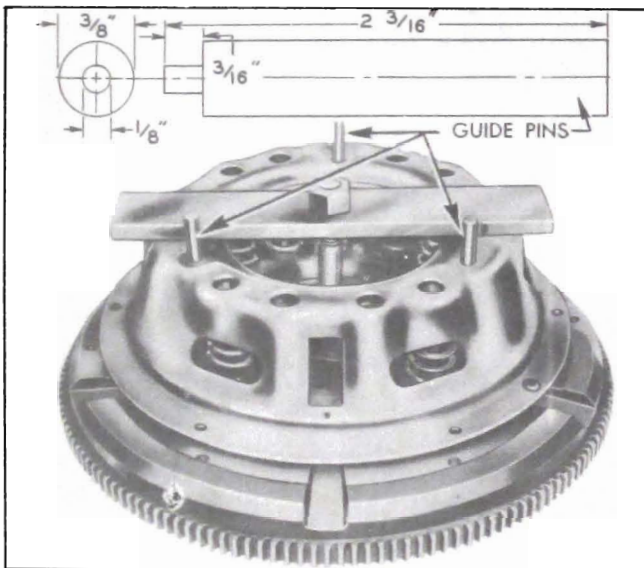

Figure 4-14—Assembling the Clutch—Series 50-60
each other in order to preserve engine balance. See figure 4-14.
2. Unhook spring retainers from ears on clutch cover, using Assister Hook J 1039-2 shown in figure 4-14, Tool J 1039-1 shown in illustration is not used in this operation.
4. Press cover down while guiding the release lever pivot screws and the pressure plate driving lugs into the holes and slots in cover. Three guide pins made locally as shown in figure 4-14 may be used to guide the pivot screws.